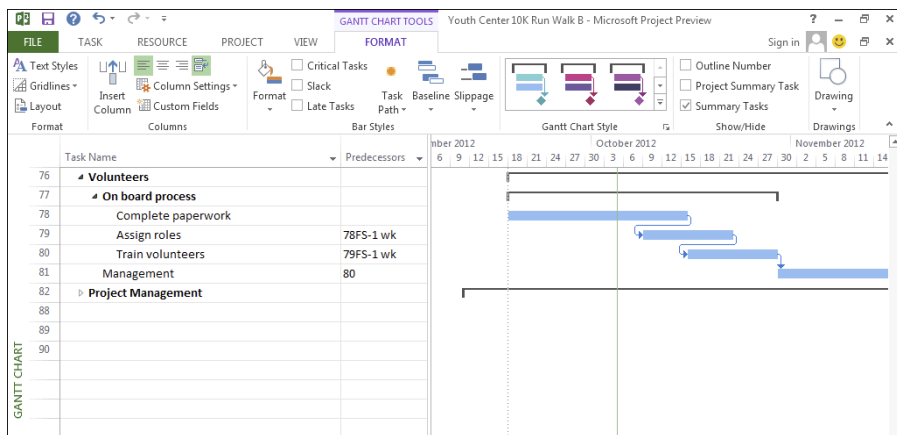

Figure 4-5:
- ✓ **Lead time** is created when you accelerate time between the start or finish of the predecessor; lead time causes an overlap between two tasks. This concept is sometimes referred to as *fast tracking*. Suppose that you want to accelerate the timing for the volunteer onboarding process. Rather than wait for all the volunteers to sign up and complete their paperwork, you decide to start assigning key roles and begin training some volunteers early. The Complete Paperwork task and the Assign Roles task have a finish-to-start relationship. However, to accelerate the process, you insert a lead of one week. A lead is considered a negative lag, so this relationship is shown as FS-1wk. (See Figure 4-5.)